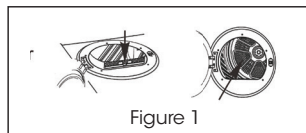

Figure 1
- Open the door, remove the filter, and use the vacuum cleaner to insert it respectively into the filter installation hole and the honeycomb holes at the bottom of the drum to suck out the dust, thread debris and other substances inside (Figure 1).